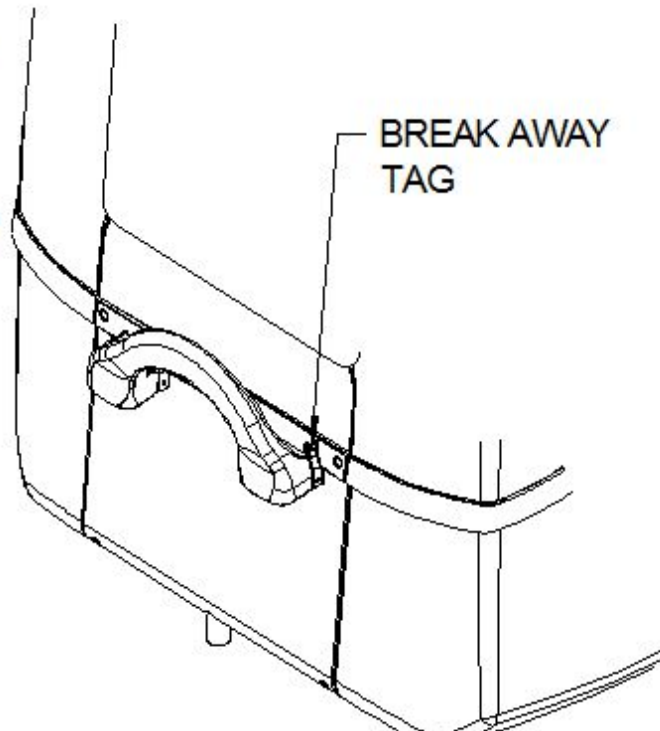

Figure 8: Break Away Tag installed
- Place the easy Break Away Tag through hole provide on right side of handle (Ref Figure 8)